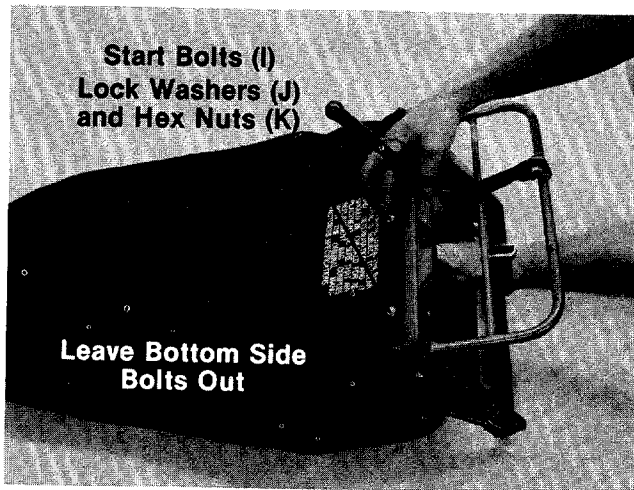

FIGURE 10.
- Slip frame into grass bag. The black plastic is the bottom of the grass bag. Fasten edges of bag (with eyelets) to front frame with 3/8" bolts (I), lock washers (J) and hex nuts (K). Finger tighten. See figure 10. Hint: For easier assembly **Do Not** fasten lower bolts on sides until after step 3.